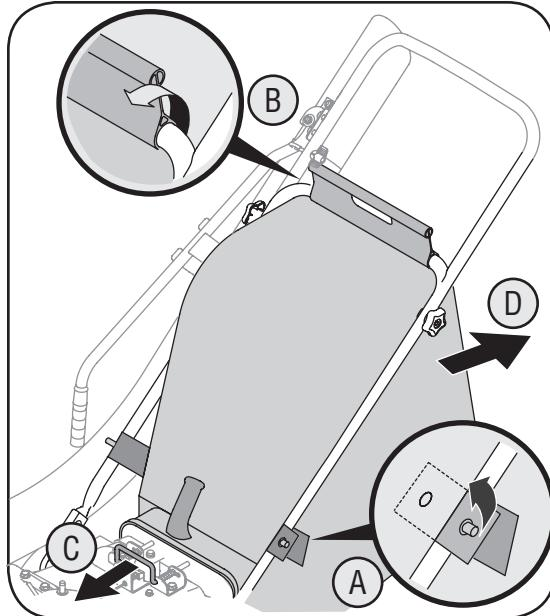

Figure 4-3
- b. Unsnap bag clip from the top of lower handle. See Figure 4-3.